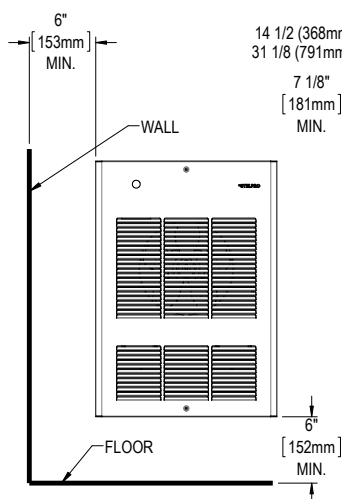
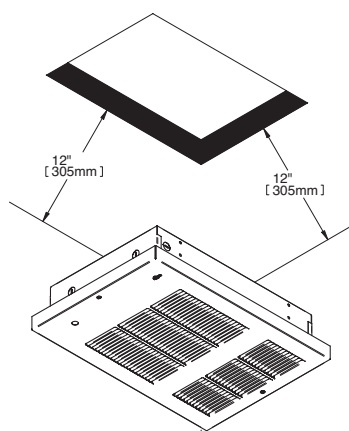

FIG. 1
FIG. 4
1. Recessed and surface installation of WF units (wall mounting) must meet the minimum distances for single and double units (see figures 1 and 2). For CF units (ceiling mounting), the minimum distance from the wall is 12 inches (305 mm) (see figure 4).